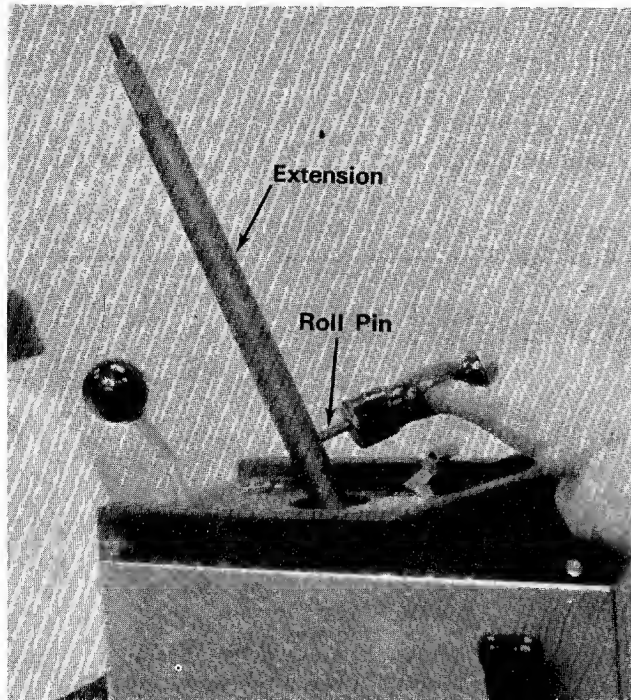

Figure 2
2. Line up the hole in the extension with the hole in the steering column and drive in the roll pin with a hammer. (See figure 2.)